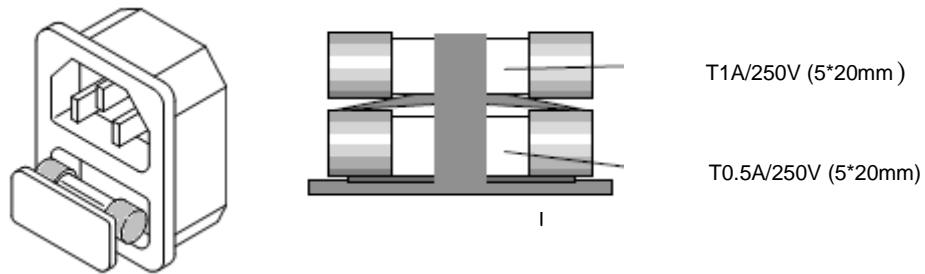

Fig 2-2 FUSE RECEPTACLE
- 2.2.2 The AC line fuse is located below the AC line socket (see Fig 2-2). Use A small screwdriver to remove the fuse holder. Replace the failed fuse With the appropriate type and rating according to your mains voltage. (See Table 1-1)